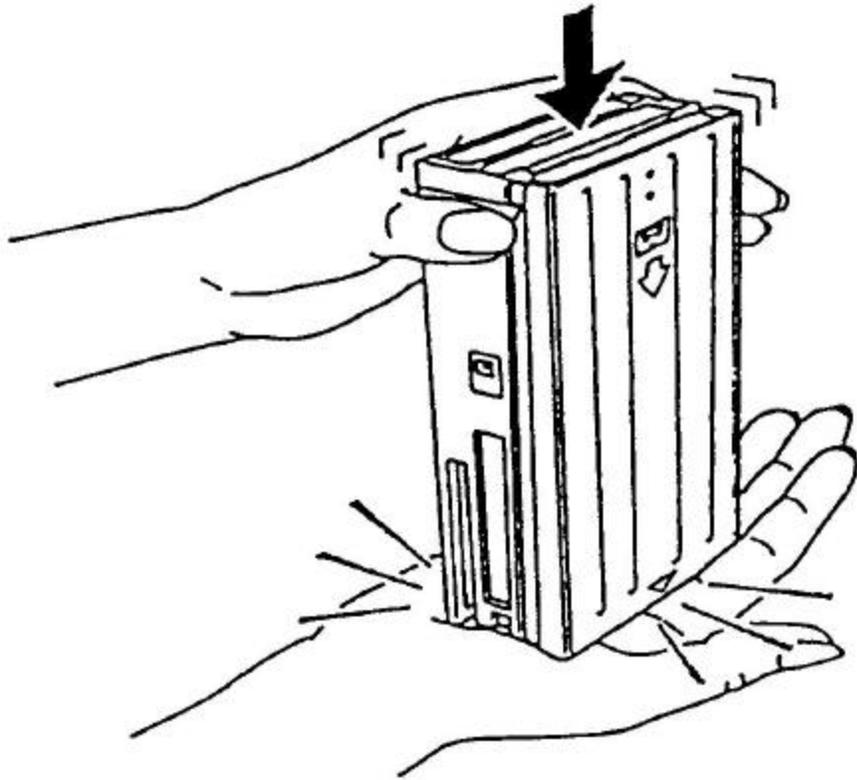

Figure 3-11. Moving top-shelf cartridges to the bottom shelf
4. Turn the magazine so that the open end faces up and tap it gently against your hand or a soft object. This makes cartridges move from the top shelf to the bottom shelf, see Figure 3-11.